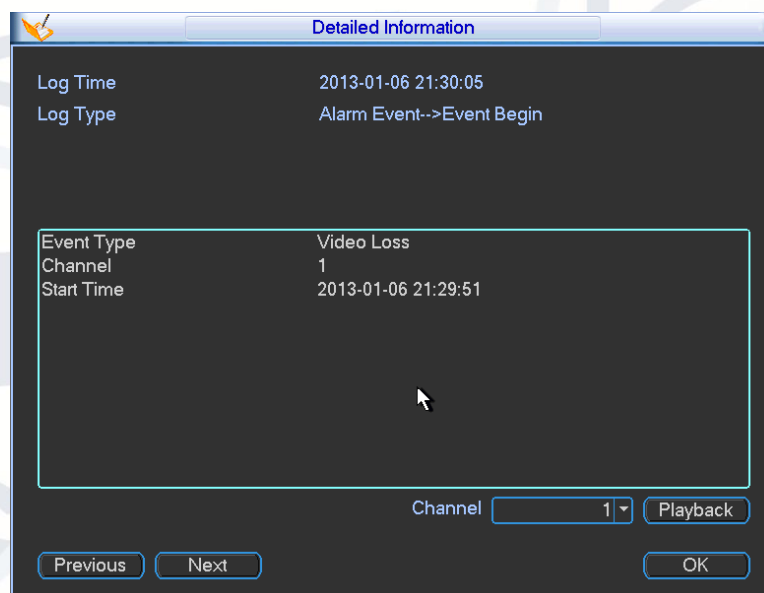

Figure 5-11
- **Details:** click the 'Details' button or double click the log item, you will then be able to view the information related to that log file (See Figure 5-11). Here you can use the grey highlighted rolling bar to view the information, or you can use Page up/Page down to view other log information not shown on the current list. To view the alarm event log for video loss, you can click the Playback button at the bottom right corner to commence playback.